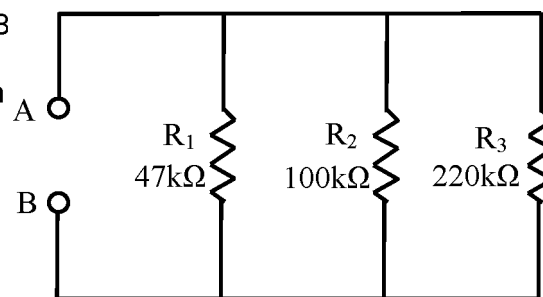

Figure 20-1
1. Connect the circuit as shown in Figure 20-1.